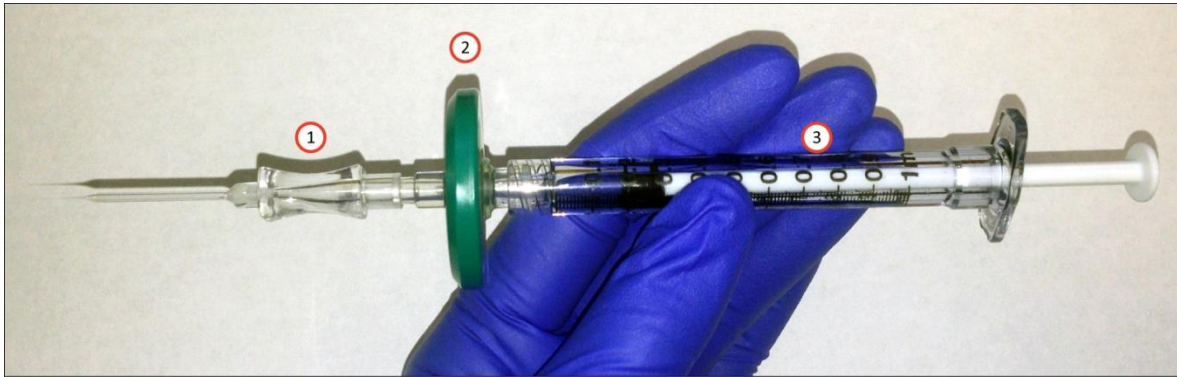

Figure 5: *DCU and filter affixed to a Luer lock sterile syringe. 1 – DCU; 2 – filter, 3 – syringe.*
NOTE: DCU contents may also be released using a syringe with a male luer lock. Make sure that a syringe with a male Luer lock has been prepared with the plunger slightly pulled back and a filter attached to the tip (Figure 5). To empty the contents from the DCU, rotate the Unipick+™ Head 90° counterclockwise and carefully detach the DCU. Affix the DCU to the filter on the prepared syringe (Figure 5). Using both hands hold the DCU in a receptacle (e.g. microcentrifuge tube) and eject contents by gently pushing the plunger down. Attach a DCU to Unipick+™ Head and re-calibrate to continue collection.
4. Remove the DCU and dispense contents if necessary using a syringe as previously described (**Figure 5**).
4. Remove the DCU. Dispense the contents using a syringe (**Figure 5**) if desired.
Follow the instructions for **Dispensing the DCU Contents**. Alternatively, use the following manual protocol: Prior to removing a DCU from **Unipick+**TM Head, prepare a syringe by pulling the syringe plunger back and attaching a filter to the syringe tip (**Figure 5**). Then, from the *Standby* position, press the blue illuminating *Retract* button on the side of the control box (**Figure 2-3**) or the *Retract/Standby* icon. Carefully remove the DCU and attach it to a syringe. Carefully position the DCU tip into preloaded buffer and slowly eject cell/tissue sample into a microcentrifuge tube containing the desired buffer for subsequent application. To remove remaining tissue inside the capillary shaft, carefully and slowly load the attached syringe with PBS or other desired buffer to rinse the DCU and then release the contents into the microcentrifuge tube. If not for immediate use, samples may be frozen on dry ice and then stored at -80°C.